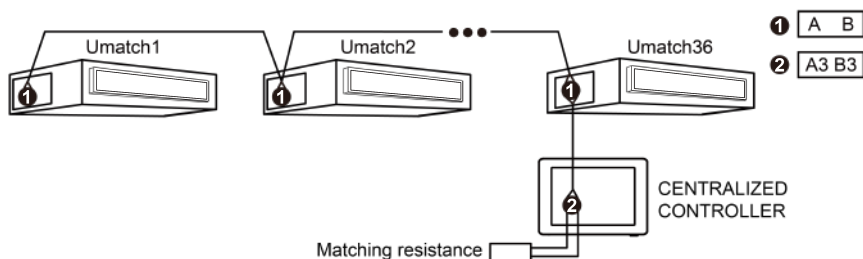

Fig. 3.7 Centralized Controller Connected with U-match Unit
- (1) The centralized controller is applicable to U-match units (Including PAC units), One centralized controller can control up to 36 U-match units.
- (2) If the centralized controller is to be connected with U-match units which have COM_BMS ports, connect according to fig.3.7. The controller must connect with terminal unit of U-match system. Connect the centralized controller's A3 and B3 ports to COM_BMS port on the U-match unit correspondingly with communication cords. A matching resistance needs to be added with the communication cords at the A3 and B3 ports. There are two COM_BMS ports (two core neilsbed and no polarity) on mainboard of U-match unit, one for centralized controller and another for U-match unit connection.